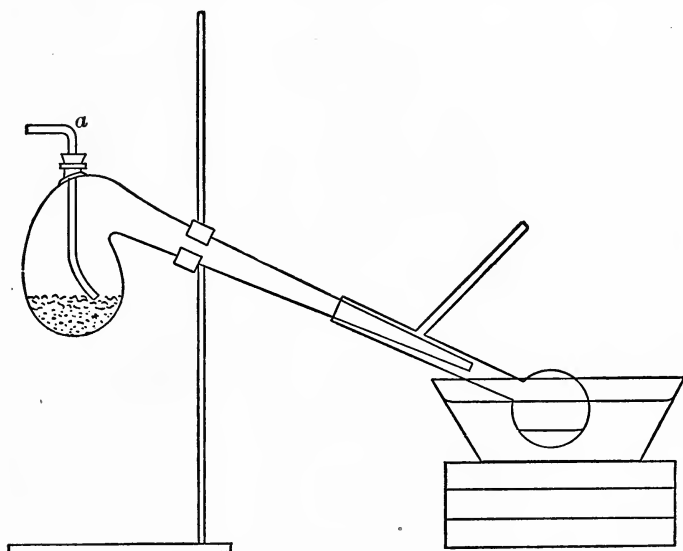

FIG. 18.
122. Anhydrous stannic chloride (elective; hood). — In a *dry* 100 c.c. tubulated retort put 10 grammes of granulated tin. Set up an apparatus for making chlorine as in (8), but using twice the quantity of material. Dry the chlorine by passing it through sulphuric acid and let it enter the retort through a cork fitted to the tubulus of the retort. (See Figs. 18 and 19.) Heat the retort until the tin melts and collect the stannic chloride, which distils over, in a *dry* side-neck distilling flask used as a receiver. When the tin is all gone, disconnect the apparatus and distil the product in the side-neck flask, observing on a thermometer the temperature of its boiling and the steadiness with which it maintains that temperature. Collect in a *dry* bottle and cork with a rubber stopper to keep it from the moisture of the atmosphere. Cautiously pour a little into an equal quantity of water and let it cool. Dissolve in more water, and make with the solution the tests for stannic compounds.